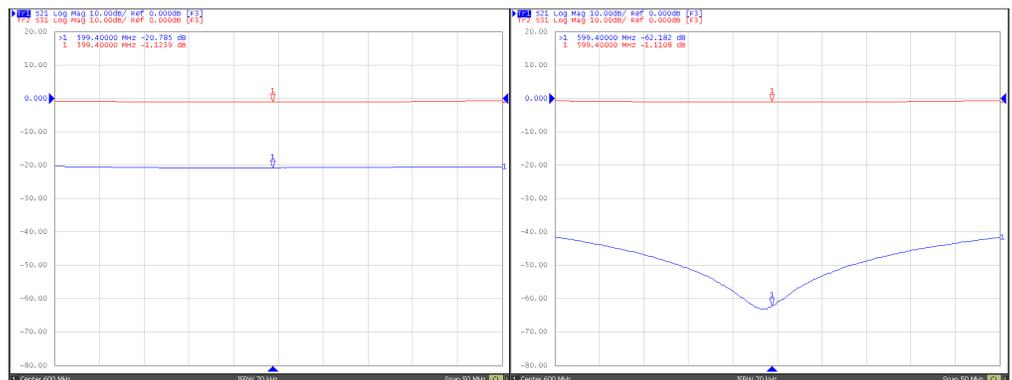

Figure 3: Isolation (blue) and insertion loss (red) for the untuned (left) and tuned (right) switch (center=600MHz, span=50MHz, 10dB/div).
Results: The switch was driven at 100mA (ON) and -30V (OFF) using a suitable PIN diode driver (e.g. [4]). Performance of each channel at 600MHz is shown in table 1. Plots from the network analyzer are shown in figure 3.